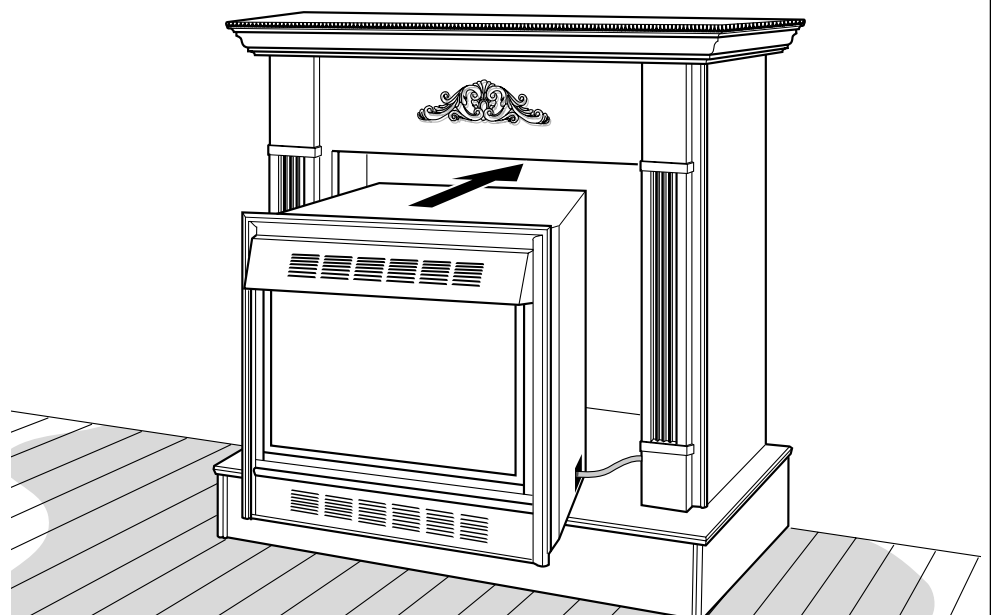

Figure 11 - Inserting Fireplace Into Cabinet Mantel
7. Carefully place fireplace on top of hearth base (Figure 11). Be careful not to scratch or damage hearth base. *Note:* You can secure fireplace to hearth or floor. Open lower louver. Locate screw holes in bottom of base. Secure with wood screws through these holes and into hearth or floor.